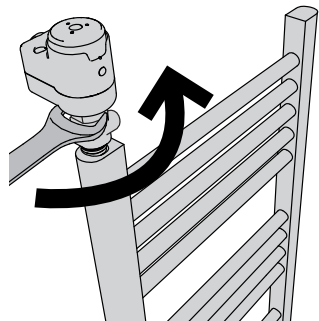

Fig. 15
4. Using a 27 mm spanner unscrew the T-piece with screwed the ATLANTIS, rotating it anticlockwise until T-piece thread is completely off from towel rail ½" GAS female thread (Fig. 15).